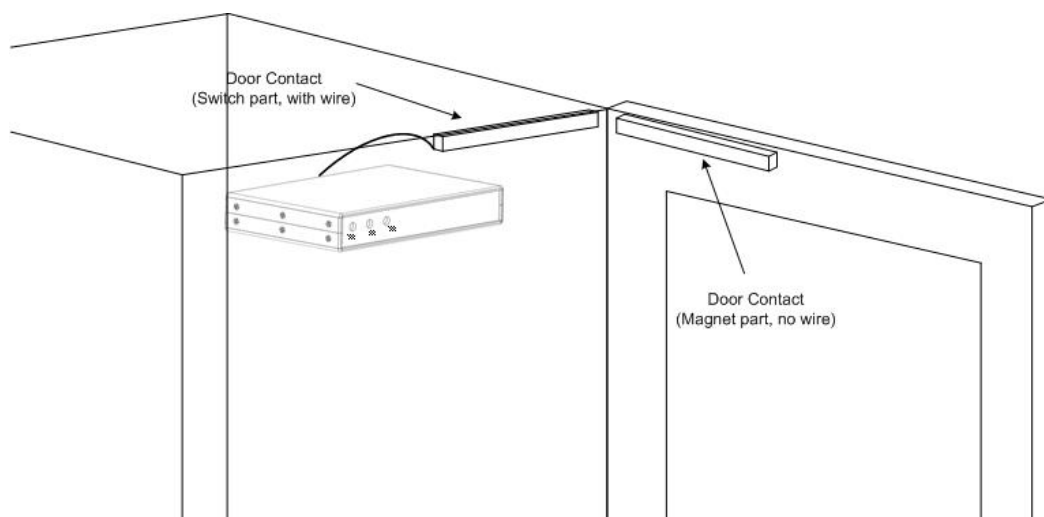

Figure 18
- To use one of the Door Contacts follow the example show in Figure 18. The example connects to pins 9 & 10, an additional Door Contact can be connected to pins 11 & 12.